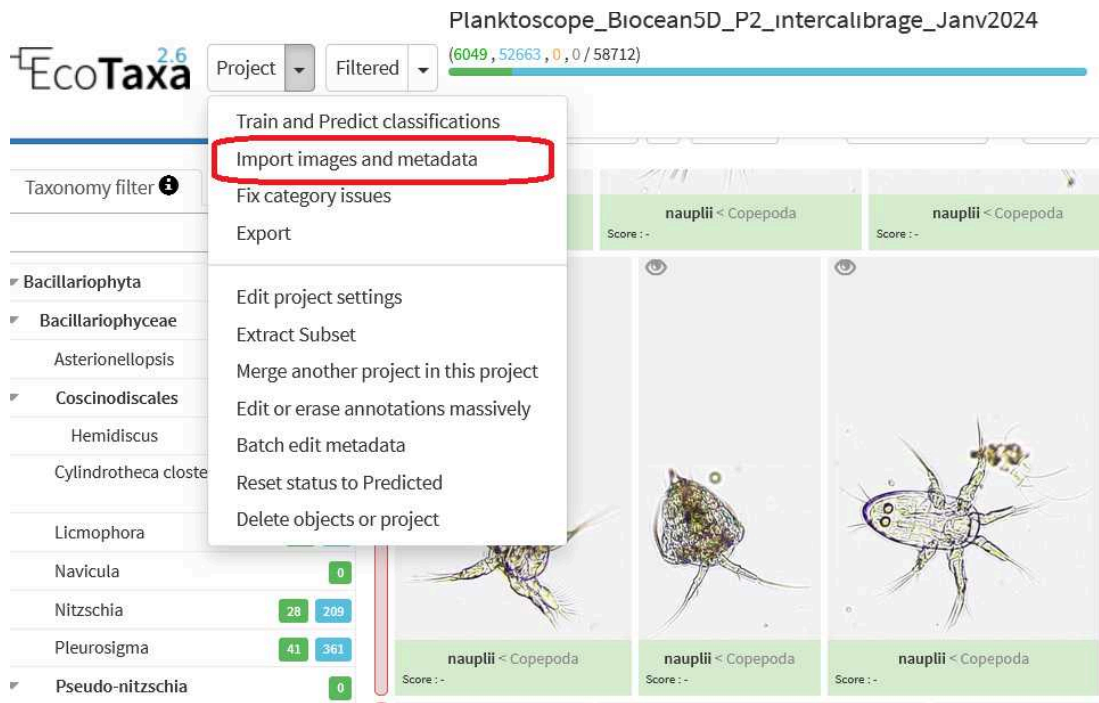

Figure 6: How to import images and metadata
1. In your project: on your "Project" options button, select "Import images and metadata" (Fig.6)